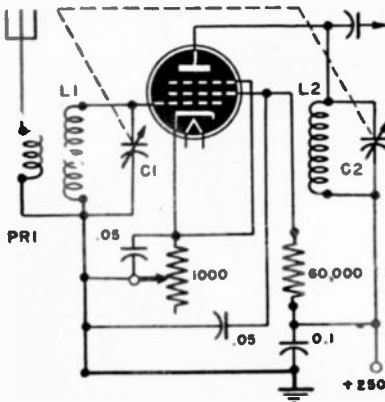

Fig. 101
A. An efficient and selective amplifier is shown in Fig. 101. It may be considerably simplified by substituting an r.f. choke for the L2-C2 combination. This will cut sensitivity somewhat, but will also cut out tracking troubles, as you will have only a single tuning condenser. A 6K7 or 6J7 tube may be used. For increased gain a 6SK7 or 6SJ7 can be used (or a 6BA6 miniature tube).